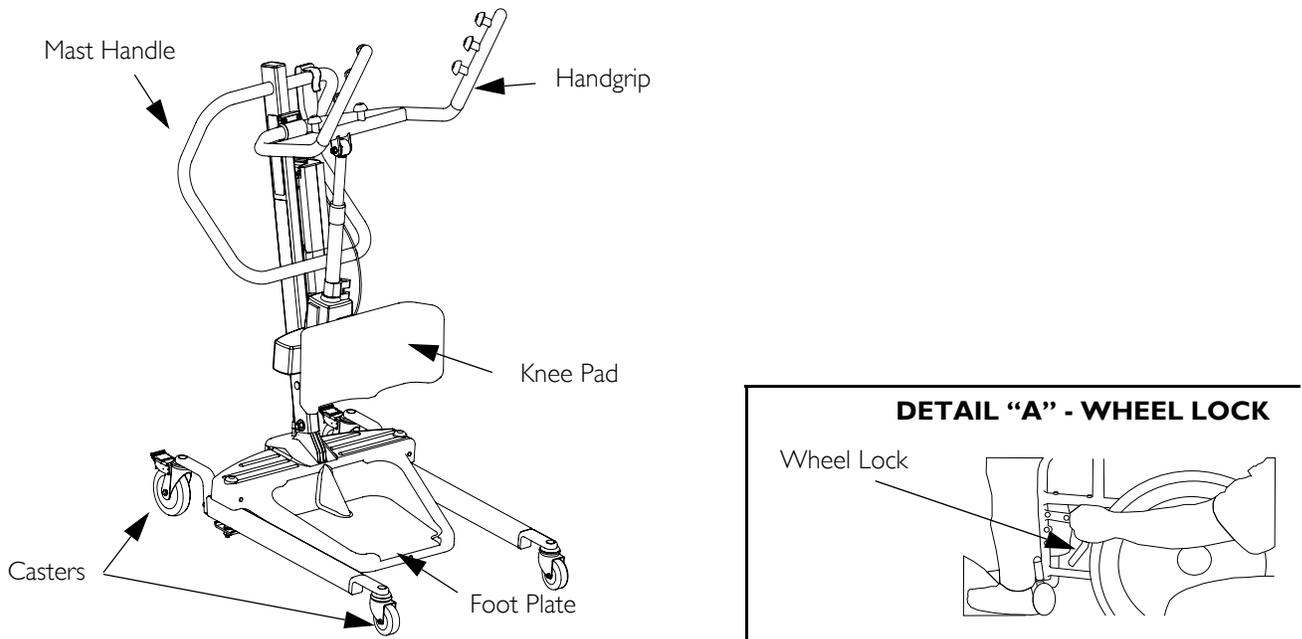

FIGURE 10.2 Lifting the Patient
NOTE: For this procedure, refer to FIGURE 10.2 on page 16.
1. Instruct the patient to hold onto the hand grips on both sides of the stand up lift (Detail "A" of FIGURE 10.2).
4. If transferring from a wheelchair, lock the wheel locks on the wheelchair (Detail "B" of FIGURE 10.2).